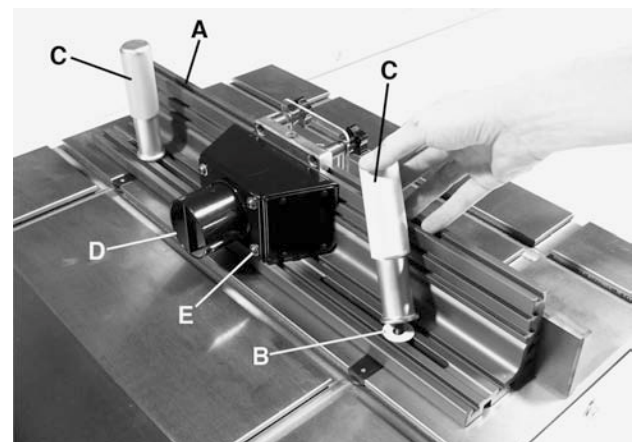

FIGURE 8
- 2) Position the fence assembly (A) Fig.8 over the shafts of both T-slot bars. Place a plastic washer (B) on each T-slot bar shaft, then secure the fence to the router table using the two fence lock handles (C).
- 3) Install dust chute (D) to the dust chute housing using four round allen head screws (E).